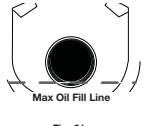

Fig. 21
5. Look into the oil fill hole, use a flashlight if needed. The oil should be just touching the inner most thread (Fig. 21).